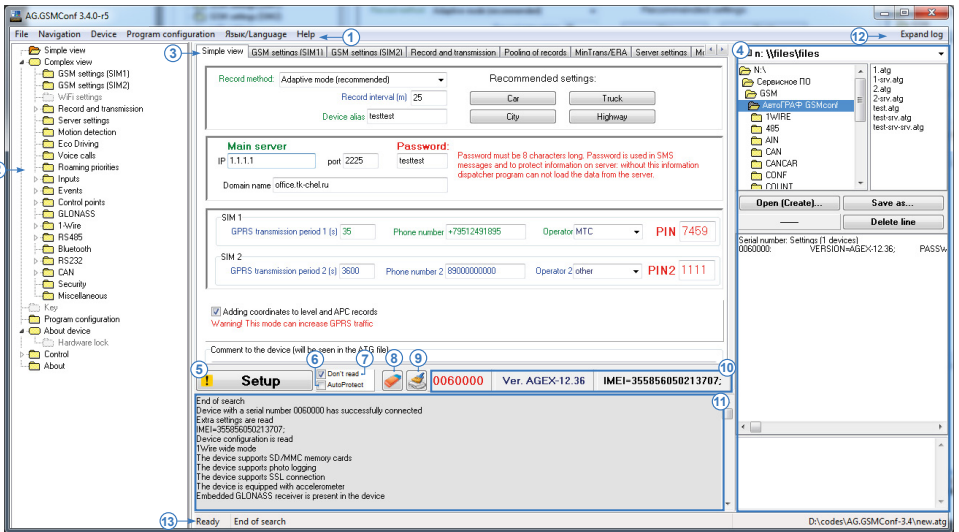

Fig.4. Program Layout.
11. **Log** – this window displays current state of the AG.GSMConf program. To review a large log file, press the “Expand Log” button (Fig.4, i.12). This button expands the full-screen status window to display the program operation log. To minimize the log press the button again.
Options of the menu which are not supported by a firmware of the device (as well as the tabs) are automatically hidden, when connecting the device. Navigation menu is also shown in the dendrogram (see. Fig.4, item 2).